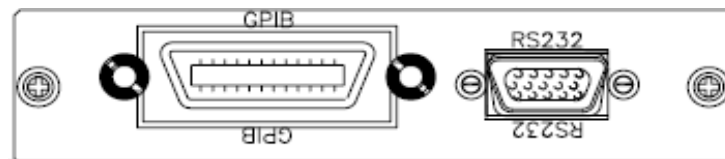

Fig 2-2 36000E Series GPIB & RS232 interface
- 2.9.4. Fig 2-2 shows the RS232 connector (Female) on the rear panel Connects 36000E Series Mainframe to RS232 port of computer in one By one Configuration .The RS232 BAUD-RATE can be set in the front Panel, it Will be lit the GPIB Address when press the "SYSTEM" button. Press it again, it will be lit the BAUD-RATE.